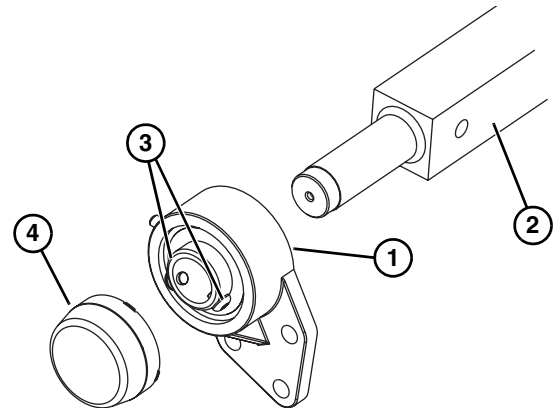

Figure 70
5. Slide the bearing flange assembly (**Figure 70, item 1**), onto the spindle shaft end (**Figure 70, item 2**).
6. Use a hex wrench to tighten the bearing shaft assembly fasteners (**Figure 70, item 3**).
7. Install the bearing cover (**Figure 70, item 4**).